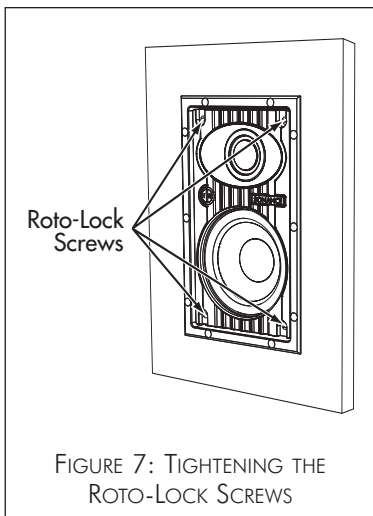

FIGURE 7: TIGHTENING THE ROTO-LOCK SCREWS
5. Tighten the four screws on the front of the speaker baffle. The Roto-Lock clamps will automatically rotate into position and begin clamping the speaker (Figure 7).